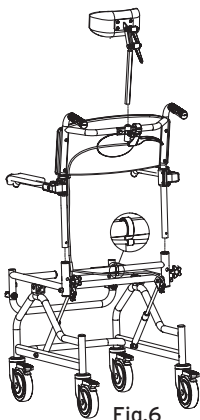

Fig.6
- Insert the backrest inside the holes on the wheelchair frame and fix the backrest using the two fixing knobs (Fig. 6);
- Insert the headrest in the support already installed on the push handle and tighten the support (Fig.6);